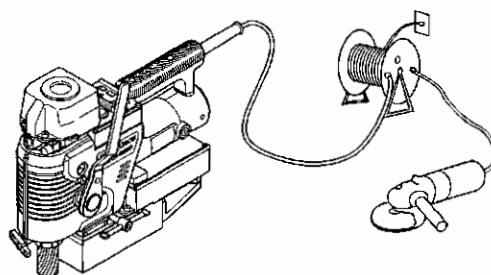

Fig. 6
- Do not use an extension cord that is too thin. Do not use an extension cord that is too long. Do not use an extension cord that is wound on a drum. Do not share an extension cord with other motor-driven tools. These uses can cause voltage to drop and can reduce the holding power of the magnetic base, causing the machine to move during operation. This can decrease performance and may cause damage to the machine. (Fig. 6)